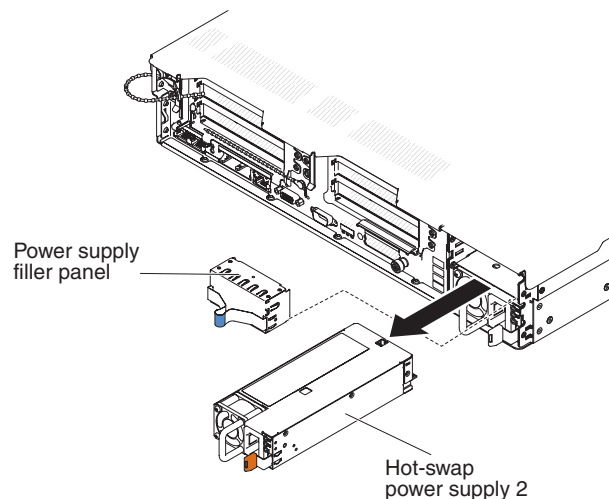

Figure 67. Removing a hot-swap ac power supply
4. Grasp the power-supply handle. Refer to Figure 67.